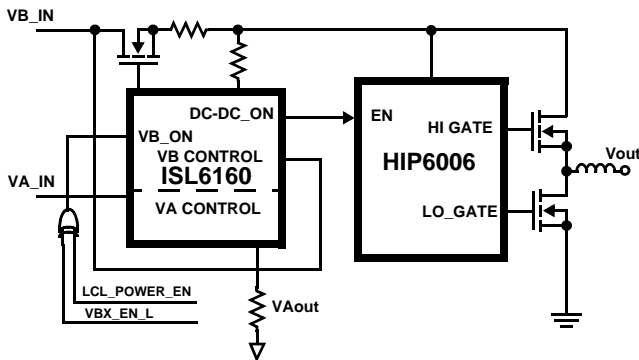
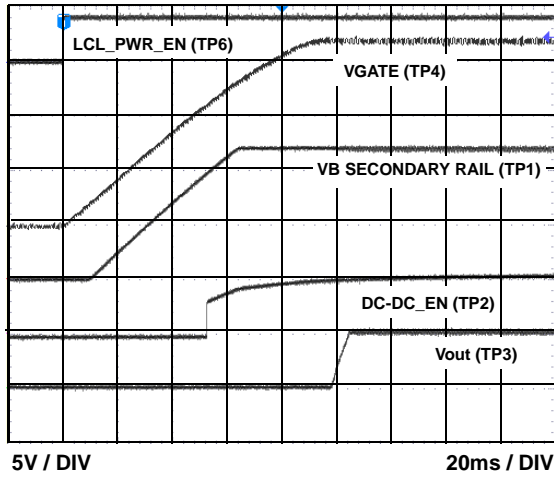

FIGURE 2. SIMPLIFIED ISL6160EVAL2 BLOCK DIAGRAM
FIGURE 19. ISL6160EVAL2 Vout TURN-ON
On the IM the ISL6160 is necessarily paired with a DC-DC converter to convert 12V to a lower usable voltage for the application circuitry. Figure 2 shows a block diagram of a complete IM power sequencer and power supply using the ISL6160 and a HIP6006, single output PWM DC-DC converter.
Available from Intersil is the ISL6160EVAL2. The ISL6160EVAL2 is a complete InfiniBand Class I (non isolated) power topology evaluation platform consisting of the ISL6160 and the HIP6006 single output PWM controller. See Figure 2 for a simplified block diagram of the ISL6160EVAL2 platform. This evaluation platform allows the Infiniband Module (IM) power supply designer to evaluate the concept of this design and apply it to a specific IM power requirement. The evaluation platform is configured for 5V Vout and exhibits a 92% total efficiency. See Figures 19 and 20 for ISL6160EVAL2 turn-on and turn-off waveforms.